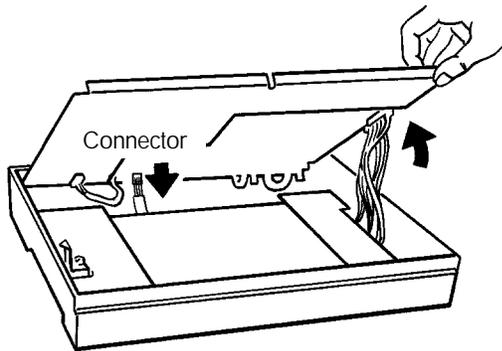
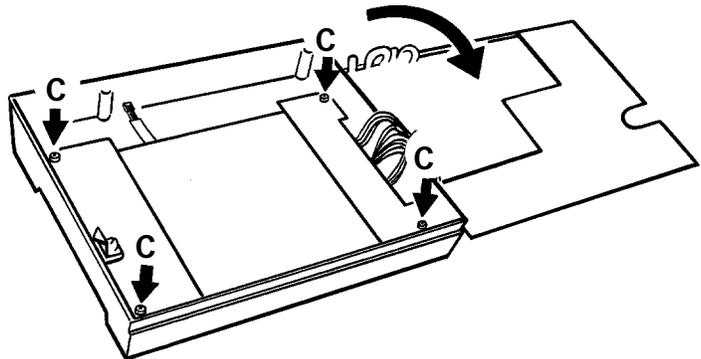

Figure 4.13.1d Lift inner cover and release connector
Figure 4.13.1e Open cover
- Carefully remove the door inner cover, by lifting the cover and disconnecting the connector as it becomes accessible (figure 4.13.1d). Swing the cover over to reveal the display unit (figure 4.13.1e).
- Remove the four display unit securing screws ('C' in figure 4.13.1e) and lift the display unit out and lay it on the inner cover (figure 4.13.1f).